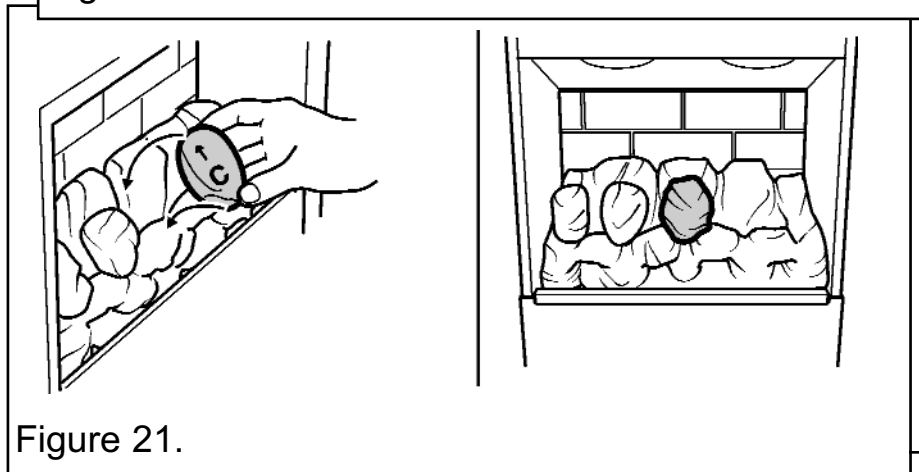

Figure 21.
4. Hold coal 'C' upright with the arrow pointing to the top. Locate coal 'C' as shown in figure 21.